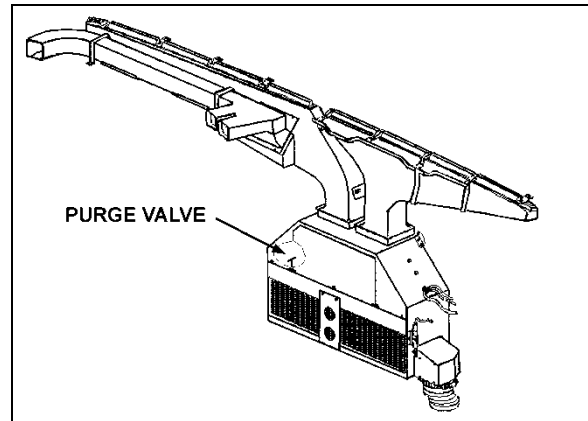
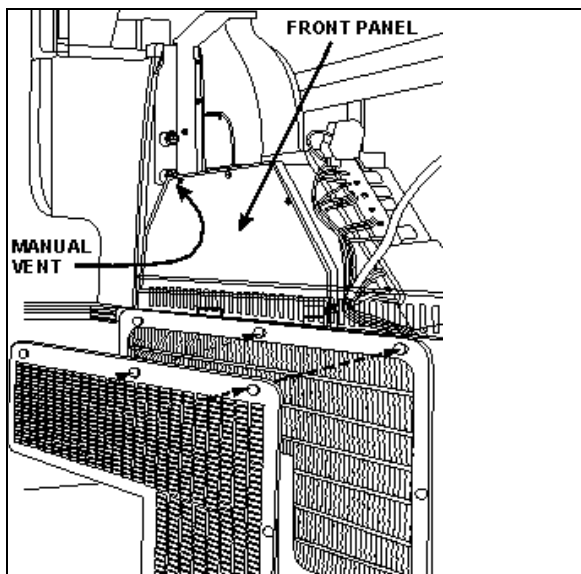

FIGURE 72: DRIVER'S UNIT AIR MIXING BOX 22171PV
FIGURE 71: DRIVER'S HVAC/DEFROST UNIT
Fresh air is taken from behind the R.H. side headlights assembly (H3 series) or from a plenum underneath the front service compartment (X3 Series) and enters the mixing box through a ON/OFF damper. Return air is taken through the right console into the mixing box (Figure 72). Mixed air goes through cooling and heating coils, fans and discharge ducts.
4. From inside of vehicle, remove the two finishing panels in front of unit. Remove the three screws fixing the unit front panel. Open the purge valve located inside the driver's unit (Figure 72). If present, open the manual vent located inside the HVAC unit, on the driver's side (Figure 71) to ensure an efficient draining.
Whenever the heating system has been drained and refilled, or the system has run low on coolant and coolant has been added, it is necessary to bleed air from heating system. Locate the purge valve illustrated in Figure 72 & Figure 77, and open them momentarily until no air escapes from the lines. If present, open the manual vent located inside the HVAC unit, on the driver's side (Figure 71).